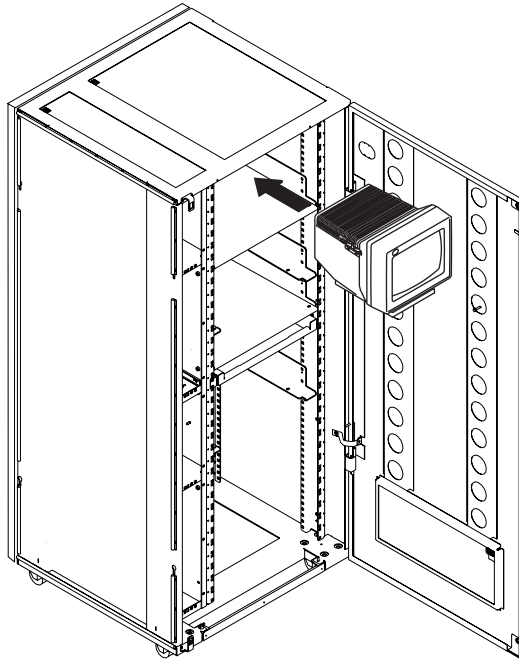

Figure 11. Installing the Display Screen in the Controller Expansion (Front Side)
- 3. Slide the display screen on the top of the controller expansion (refer to Figure 11 on page 13).